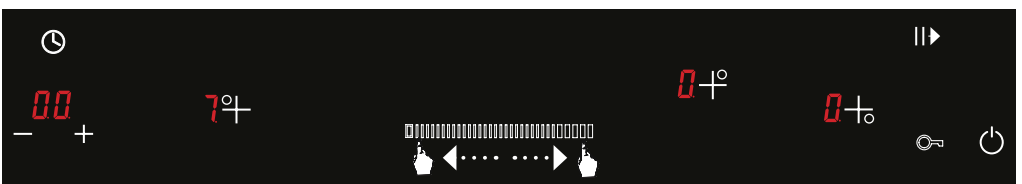

Figure 5
3. By sliding your finger to the left or right on the slider, you may adjust the temperature level of the relevant hob from 1 to 9. (See Fig. 5)